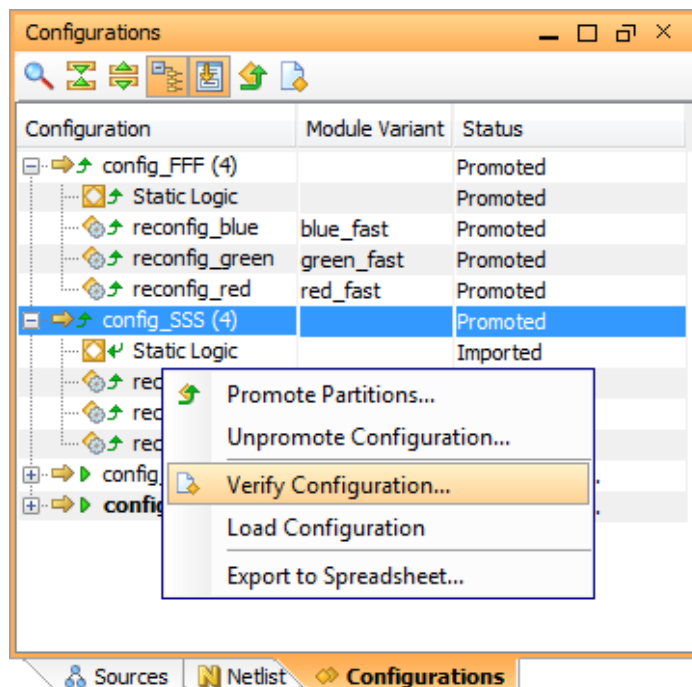

Figure 4-36: Verifying Configurations
1. From the Configurations pane using the popup menu launch `pr_verify`, shown in Figure 4-36. This is an important step in a Partial Reconfiguration design to ensure that all design rules have been met.